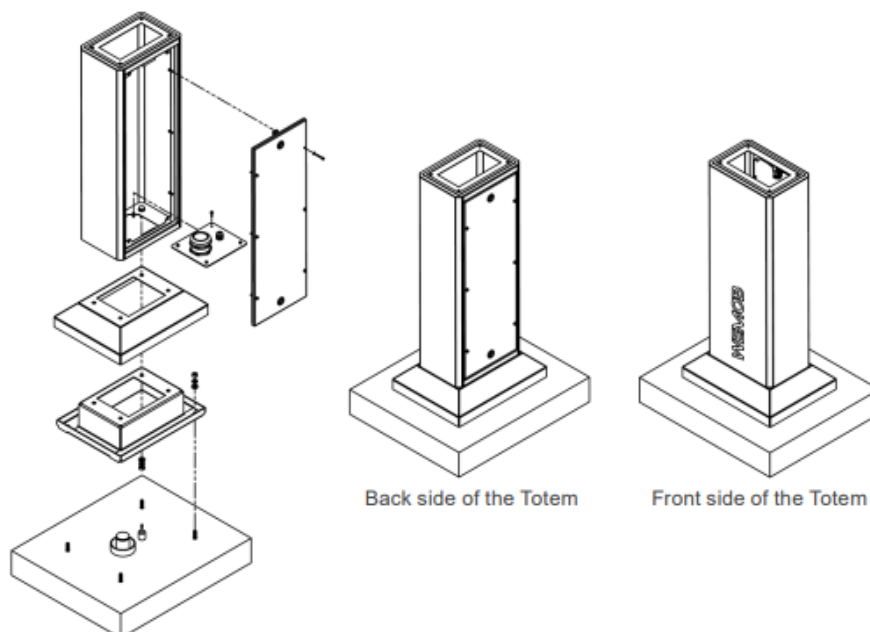

Figure 3.10: Exploded view of the assembly
The mounting of the totem to the product's base is shown in Figure 3.10 on page 3-10, using four (04) M10 hex screws provided with the product. The recommended tightening torque is 35 Nm.